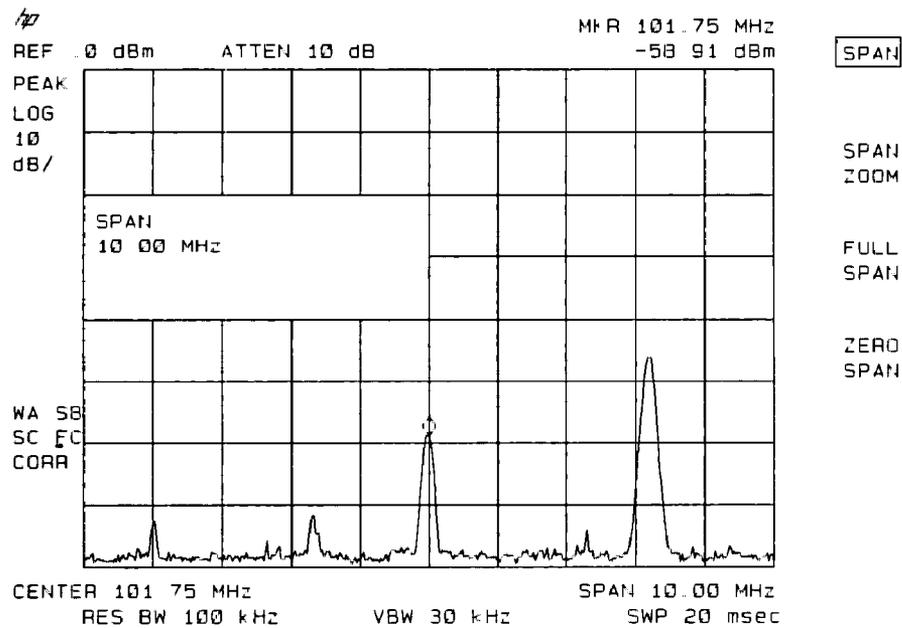

Figure 6-15. Low-Level Signal
5. Reduce the span to 10 MHz. Press **SPAN**, and then use the step down key (**▼**). See Figure 6-15.